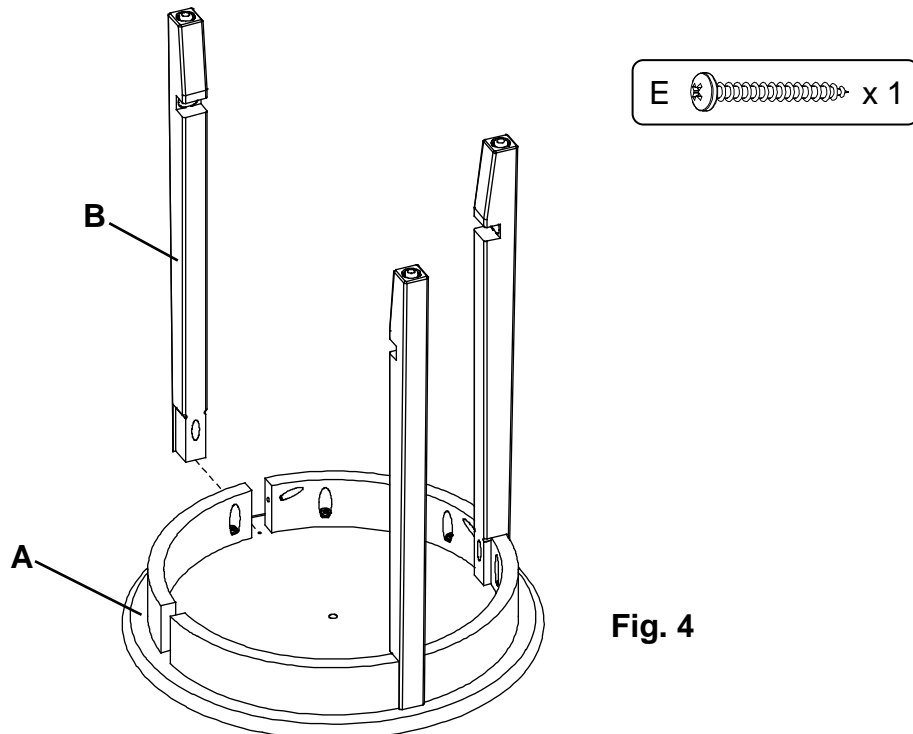

Fig. 4
4. Place a third Leg (B) in a corner of the Top Assembly (A) and using the pocket hole as a guide, secure the Leg (B) with one #8 x 1-1/4" Pan Head Screw (E). See Figure 4.